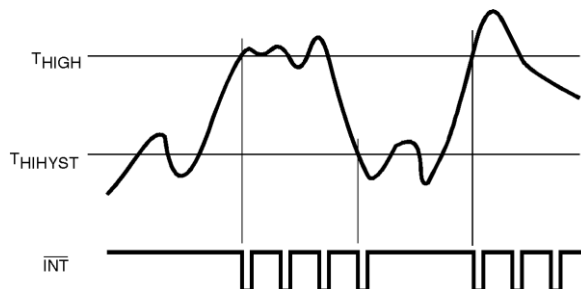

Figure 19. Normal Repetitive Interrupt Response Diagram
**Normal Repetitive Interrupt Mode** is shown in Figure 19 and operates in the following way:  $\overline{T\_CRIT\_A}$  is disabled. Exceeding  $T_{HIGH}$  causes an interrupt that will remain active indefinitely until reset by reading Interrupt Status Register 1. Once reset if the temperature remains above the  $T_{HIHYST}$  setpoint the interrupt will again be activated at the completion of another conversion cycle. If temperature is less than or equal to  $T_{HIHYST}$  the interrupt will not be activated.